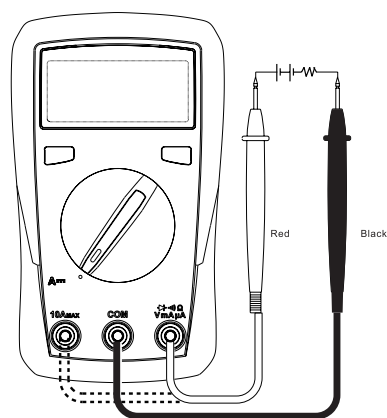

Figure 3
**6. DC measurement (see Figure 3)**
**7. AC measurement (only for 72-13430, see Figure 3)**
Please refer to Section 6 “DC measurement (see Figure 3)”